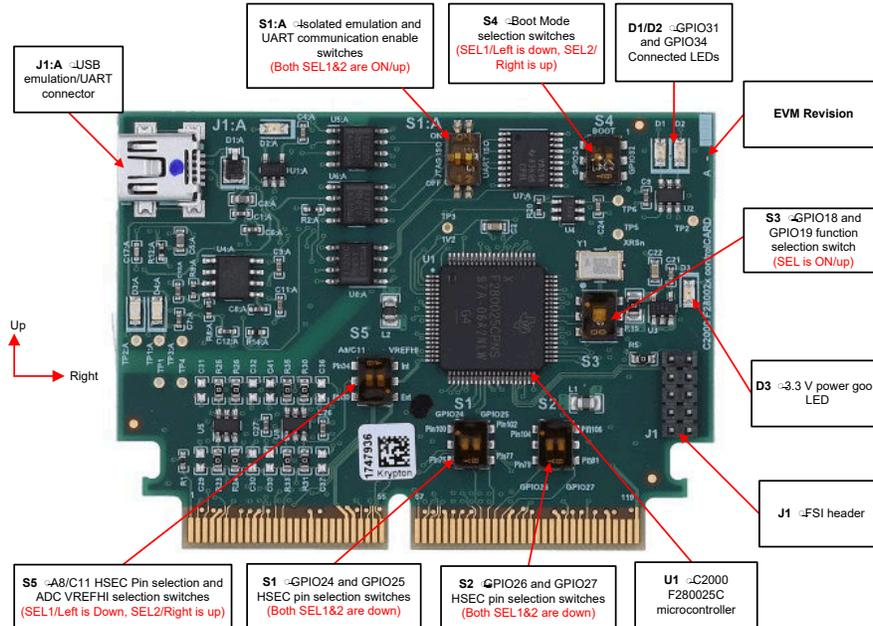

Figure 3-4. F28002x controlCARD and Switches Setting
- Make sure that switches on TMDSCNCD280025C are set as described below shown in Figure 3-4.